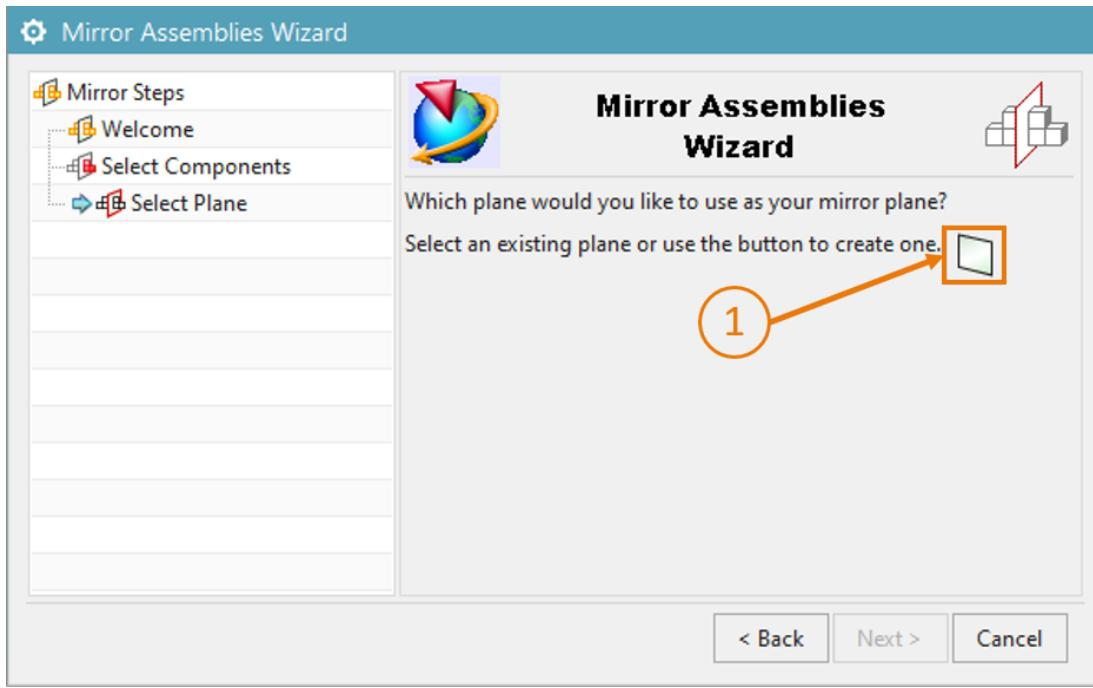

Figure 69: Mirroring the light sensor – Selecting the mirror plane
- In the next window, you select a plane on which the previously selected component is to be mirrored. For this, you click on the mirror symbol  (see Figure 69, step 1) so that you can select an appropriate plane in the three-dimensional graphics window.